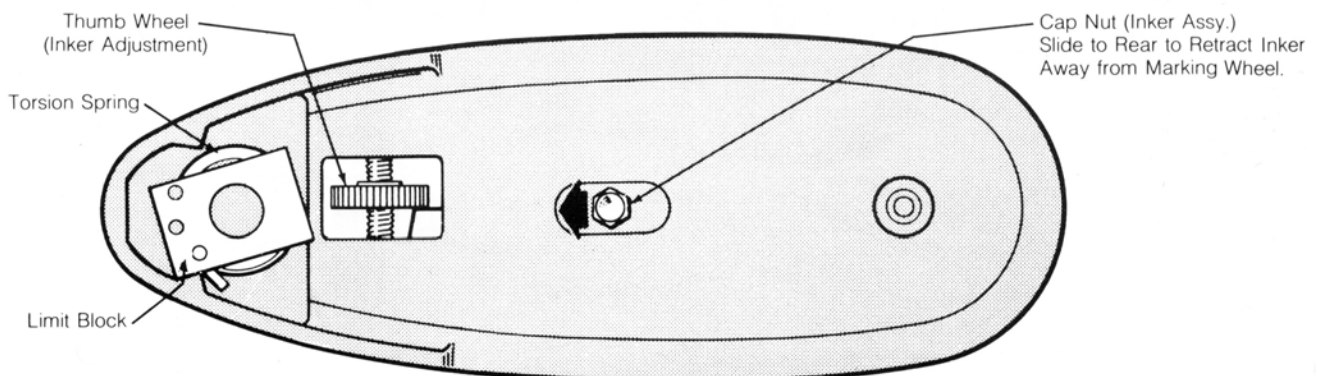

FIGURE 6
- a) With coder cover on- reach under the coder and slide cap nut away from marking wheel (See Fig. 6).